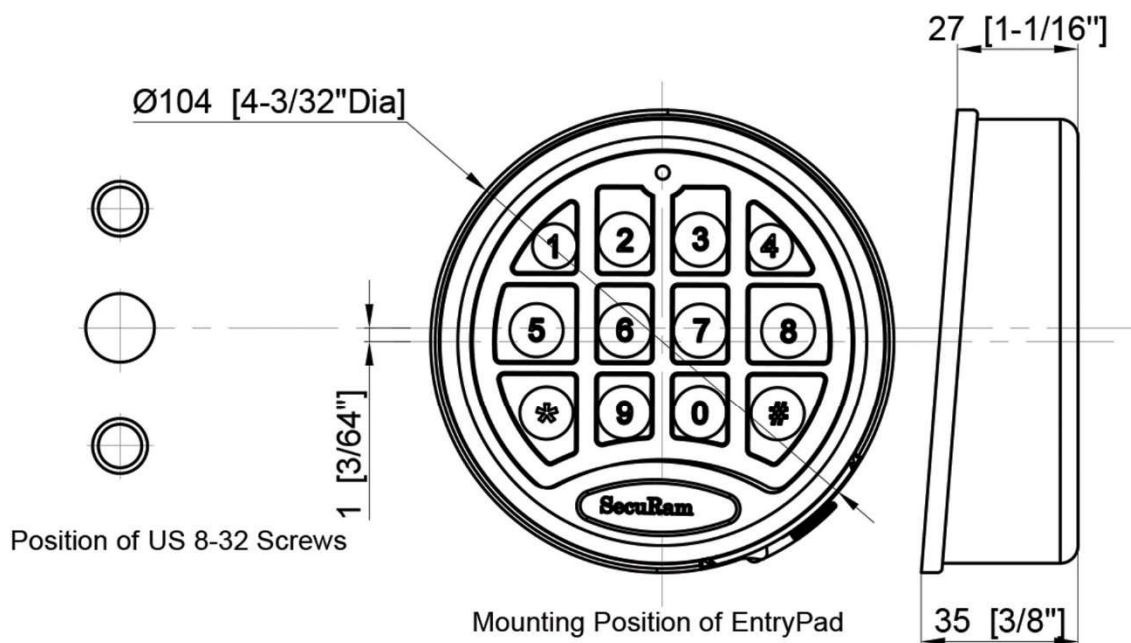

Fig. 8
4. All SecuRam entrypads have the same diameter of 4-3/32"(104mm). (Fig. 8)